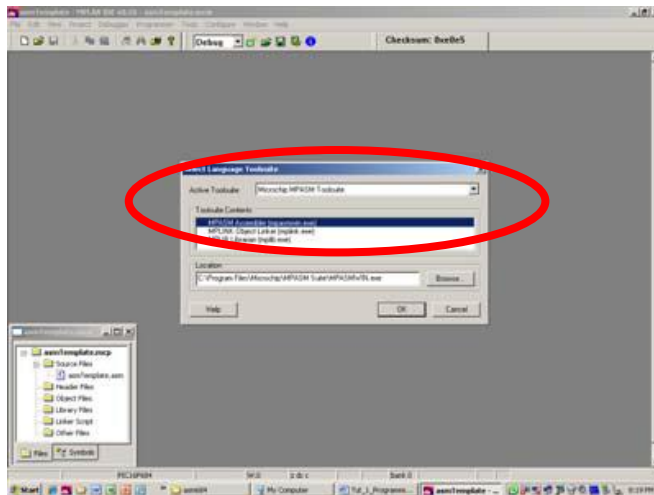

Fig 1.2: Select MPASM Toolsite
- b. You should have *Microchip MPASM Toolsuite* already selected. If not, change it. This is also where you would change to *HIGH-TECH Universal Toolsuite* if you wanted to program your PIC in 'C' (Fig 1.2).